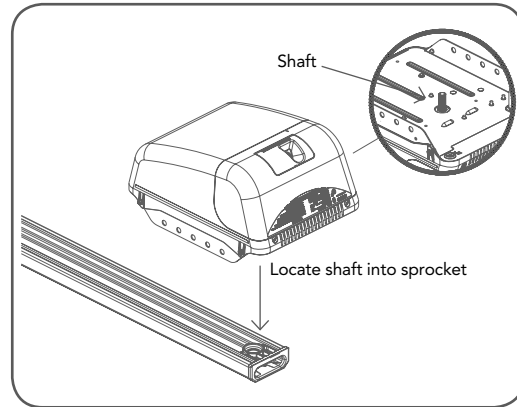

fig 05
- Locate and insert the shaft of drive unit into the C-Rail's sprocket (**Fig. 05**).